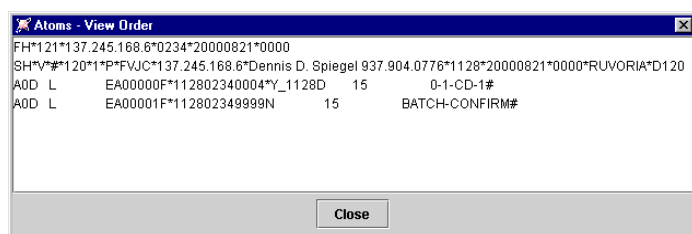

Figure 5-4. Viewing An Order
- 2) Select one of the *TPR* files listed and **Open** (or **double-click** it). The View Order window appears (Figure 5-4).
- 2) Select one of the *SNT* files listed and **Open**. The View Order window appears (Figure 5-4).